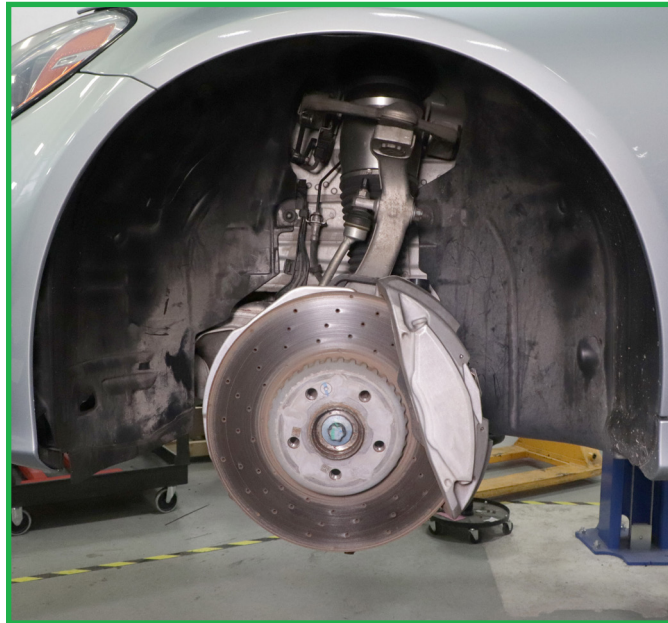

FIGURE 1
1. Raise vehicle and remove the front left wheel. (Figure 1)